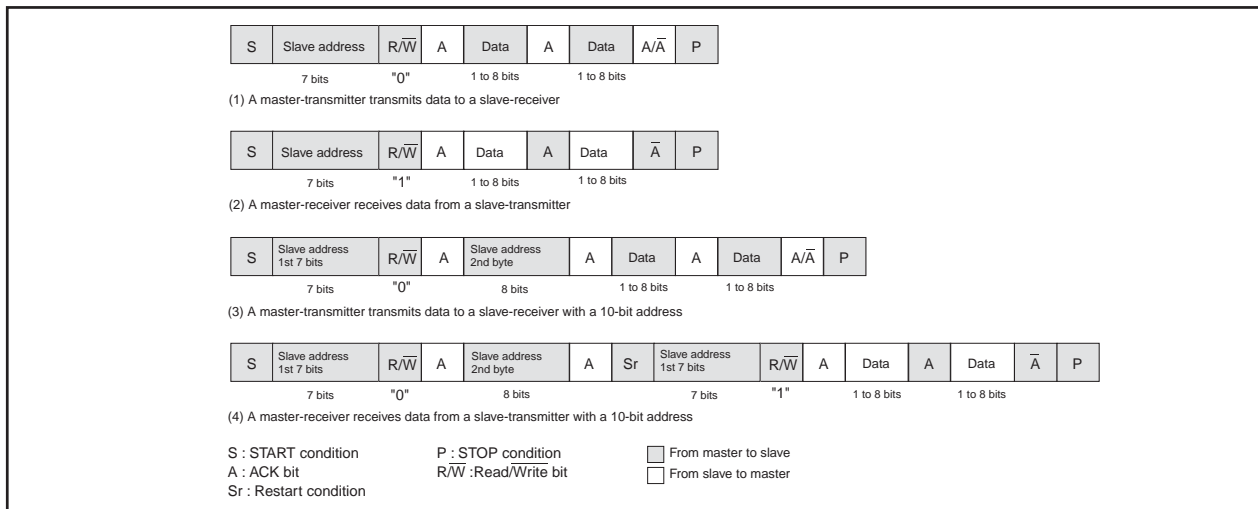

Fig. 13.14 Address data communication format
To meet the 7-bit addressing format, set the 10BIT SAD bit of the I²Ci control register to “0.” The first 7-bit address data transmitted from the master is compared with the high-order 7-bit slave address stored in the I²Ci address register. At the time of this comparison, address comparison of the RBW bit of the I²Ci address register is not made. For the data transmission format when the 7-bit addressing format is selected, refer to Figure 13.14, (1) and (2).
When the first-byte address data matches the slave address, the AAS bit of the I²Ci status register is set to “1.” After the second-byte address data is stored into the I²Ci data shift register, make an address comparison between the second-byte data and the slave address by software. When the address data of the 2nd bytes matches the slave address, set the RBW bit of the I²Ci address register to “1” by software. This processing can match the 7-bit slave address and R/\overline{W} data, which are received after a RESTART condition is detected, with the value of the I²Ci address register. For the data transmission format when the 10-bit addressing format is selected, refer to Figure 13.14, (3) and (4).
(11) Example of Master Transmission